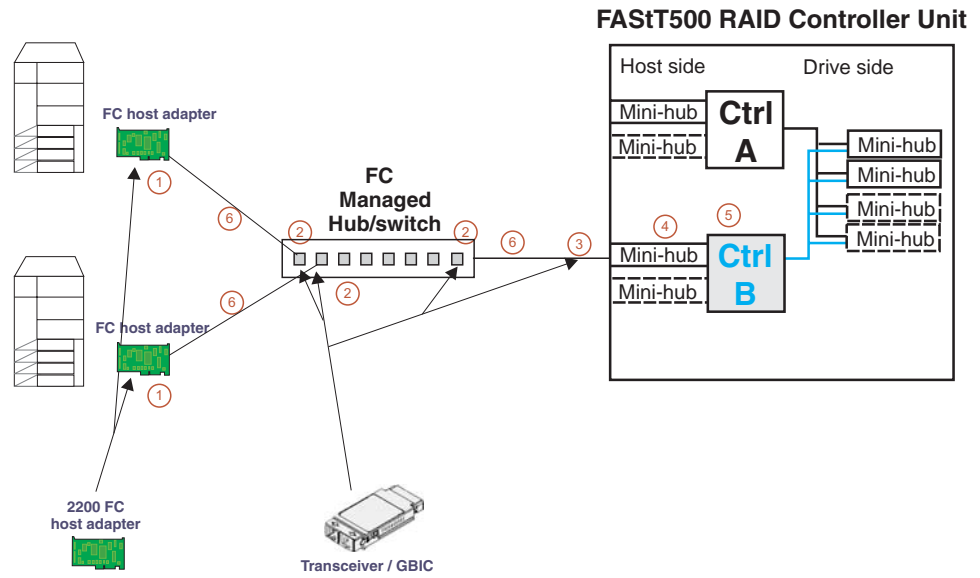

Figure 14. Path elements loop
3. To see more clearly what is involved, redraw the configuration showing the path elements in the loop, as shown in Figure 14 on page 75.
The elements of the paths shown in Figure 14 are as follows: